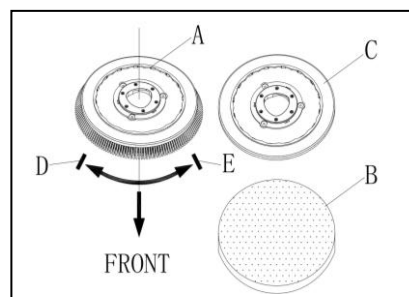

Figure 5
Install either the brush (A, Figure 5) or pad-holder (B and C, Figure 5) according to the type of floor to be cleaned.
1. Make sure that the power switch (45) is turned to off position "o".
2. Lift the tank (25) by prying the handlebar (2).
3. Rotate the brush (A, Figure 5) or the pad-holder (B/C, Figure 5) in clockwise (direction of arrow mark D, Figure 5) to install it to the deck.
4. Rotate the brush or the pad-holder in counterclockwise (direction of arrow mark E, Figure 5) to uninstall it from the deck.